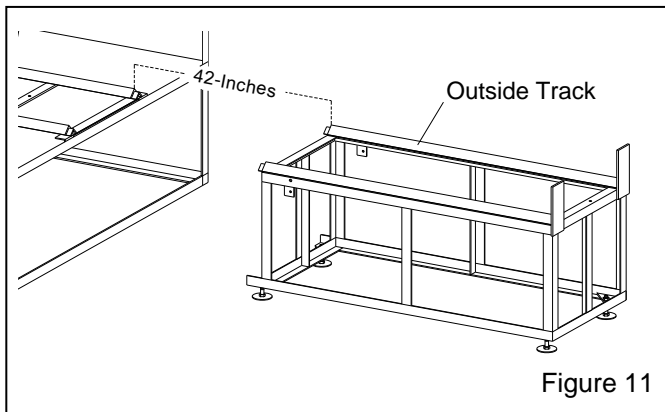

Figure 11
3.4.3 Position Outside Track, refer to Figure 11